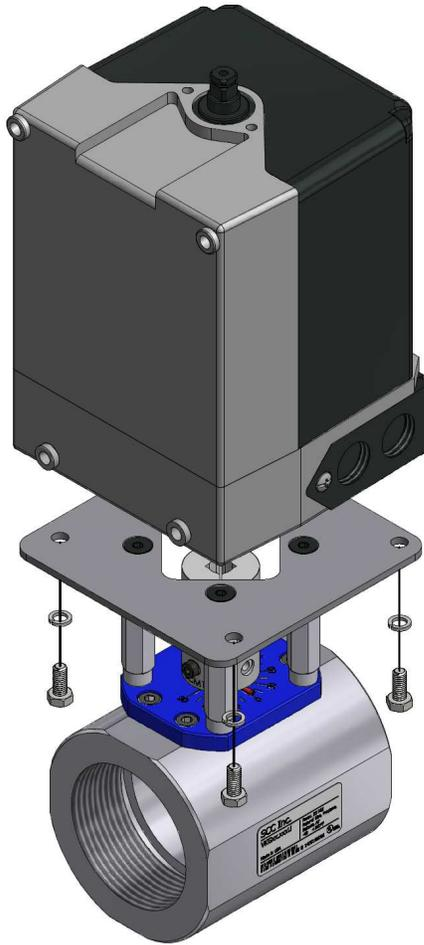

Figure 5: Actuator Installation
4. If an AGA55.5 NEMA 4 kit was purchased separately, attach it to the SQM5 actuator now before proceeding. Place the SQM5 actuator shaft into the 3/8" square bore of the coupling, and line up the four actuator mounting holes with the four corresponding holes in the mounting bracket. Using the 10mm open end wrench (or crescent wrench), the (4) M6 x 14mm hex head screws, and the (4) M6 split lock washers, secure the actuator to the mounting bracket as shown in Figure 5 below. Then, using a 5/32" hex key, tighten the clamp screw in the top coupling hub to secure the actuator shaft.